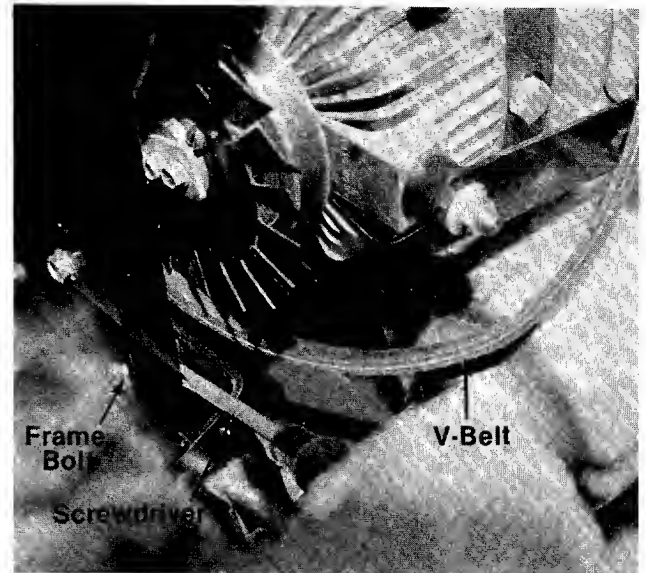

FIGURE 23.
7. Loosen the frame bolt holding the rear axle bracket to the frame. See figure 23.